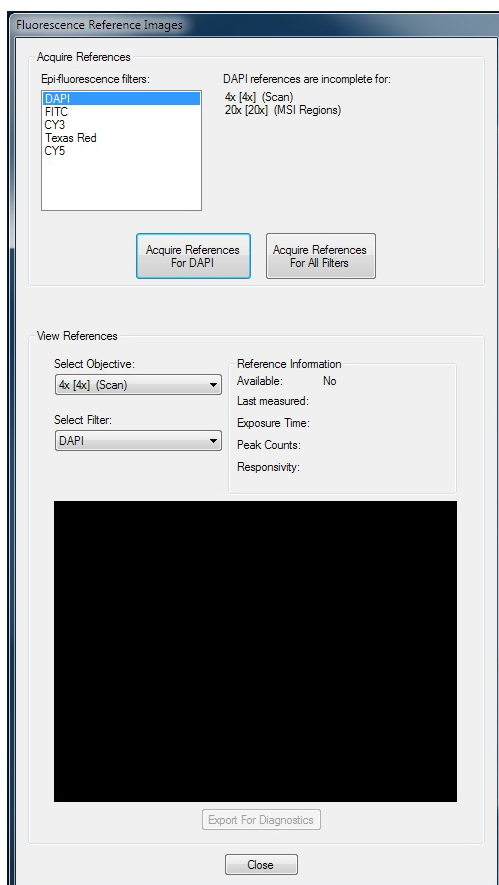

Figure 19. Fluorescence Reference Images Window
2. Click the **Fluorescence References** button to initiate taking the fluorescence references. The Fluorescence Reference Images window opens as shown in Figure 19.